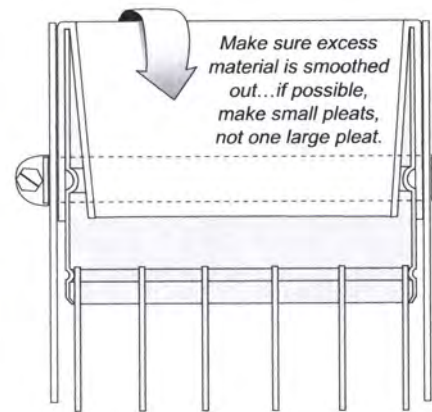

FIGURE 1
2. Fold the top of the bag inside the cage. The bag should extend down inside the roll band top to below the first groove (see figure 1). Smooth the folded fabric and distribute any excess fabric into several small pleats instead of one large one. Sleeve top bags are assembled the same way.
If top load sleeve: insert the provided installation sleeve in the tubesheet hole to protect the membrane from the rough edges. (Installation sleeves are located in the box labeled 'Open First'.) Lower the element through the tubesheet hole, slip the installation sleeve off over the top of the element and complete the installation (see Figure 1).